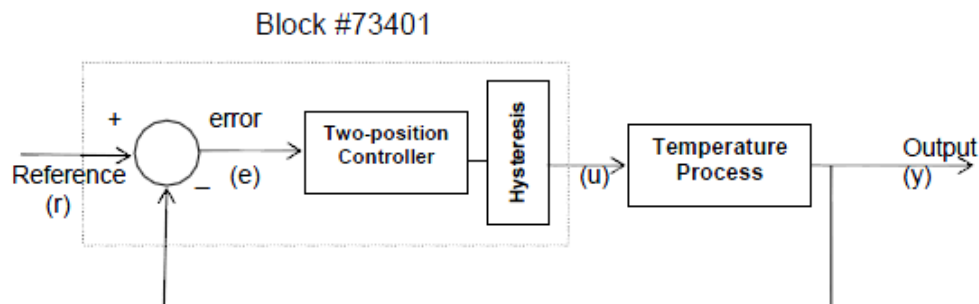

Figure T3.2: Block diagram of a closed loop two-position controller.
- Set up the experimental arrangement as shown in the block diagram of Figure T3.2.